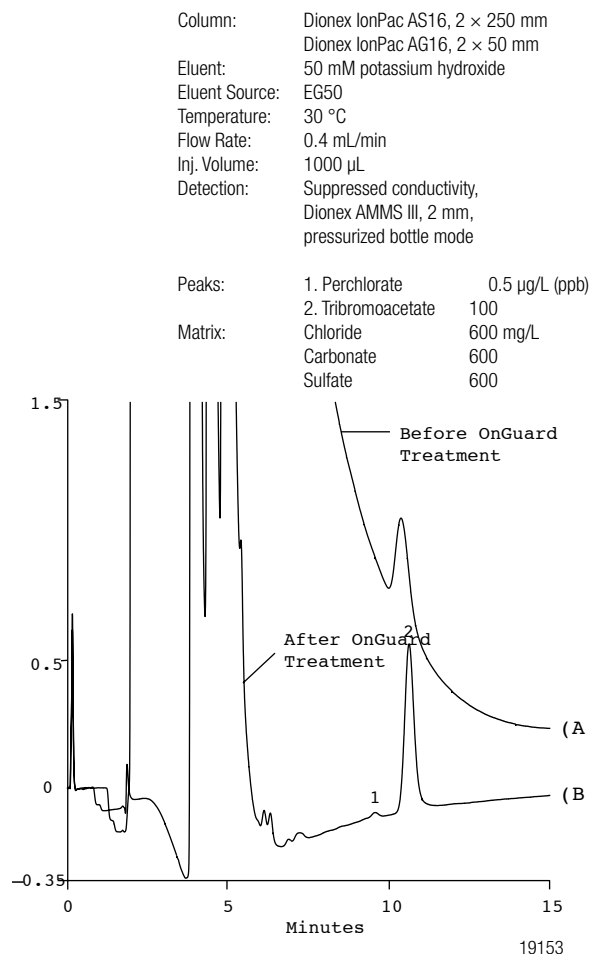

Figure 3. Determination of perchlorate at 0.5 µg/L before (A) and after (B) using Dionex OnGuard sample pretreatment.
We used the Dionex OnGuard pretreatment procedure to determine the MDL for perchlorate in a HIW matrix containing chloride, sulfate, and carbonate at 600 mg/L each. Seven injections were made of HIW samples fortified with perchlorate at a concentration of 0.5 µg/L. The fortified HIW samples were treated with the Dionex OnGuard Ba, OnGuard Ag, and OnGuard H cartridges as described in the "Sample Treatment" section. Figure 3 compares the chromatogram of the HIW MDL sample before treatment (3A) with the chromatogram after treatment with Dionex OnGuard cartridges (3B). Table 1 presents the MDL calculated for the HIW. The favorable comparison between the MDL in deionized water and the MDL in HIW treated with Dionex OnGuard II cartridges demonstrates that pretreatment can effectively achieve high sensitivity, even in challenging samples. The MDL of 0.10 µg/L permits a minimum limit (ML) for quantitation of 0.3–0.5 µg/L for perchlorate, which is adequate for routine analysis at the level of 1.0 µg/L.